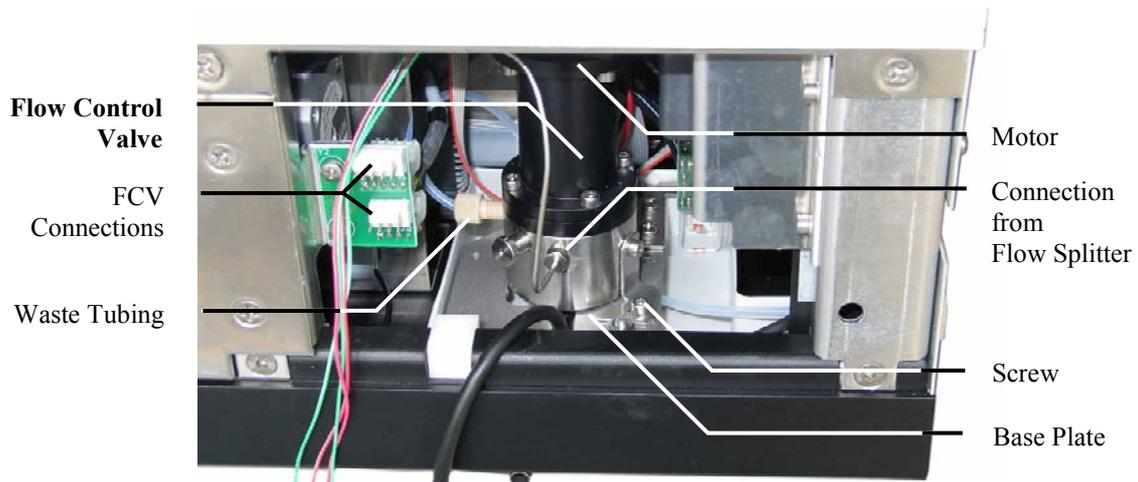
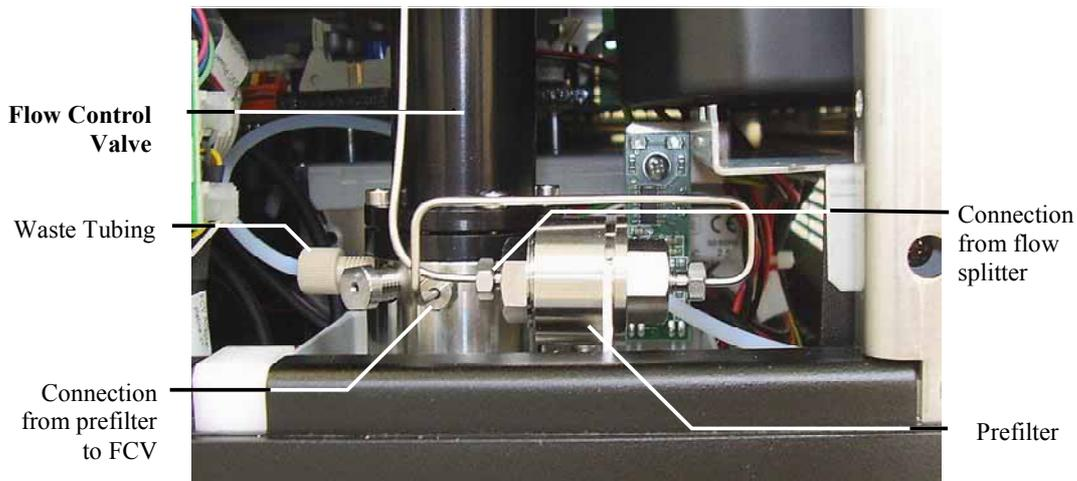

Fig. 9: Right side panel removed (no prefilter)
Fig. 10: Right side panel removed (with prefilter installed)
2. Disconnect both FCV connectors from the green FCV board (Fig. 9).
3. Check whether your flow manager is equipped with a prefilter (Fig. 10) or not (Fig. 9). Continue with either step a or b.